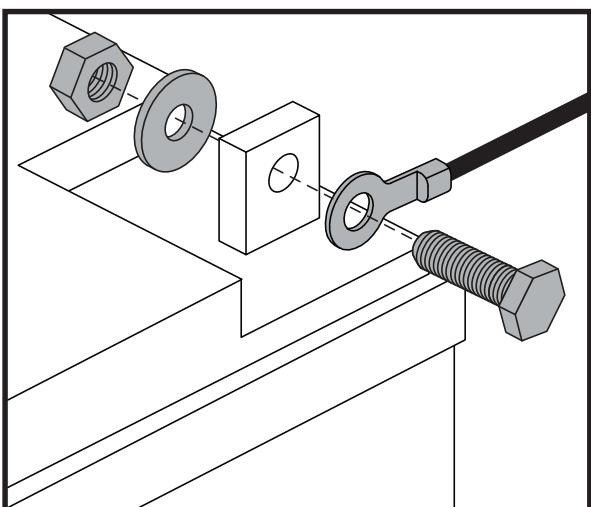

Figure 14. Battery Terminal Hardware
5. Disconnect the battery cables from the battery terminals by sliding back the terminal boots and unscrewing the nut from the bolt. **See figure 14.**